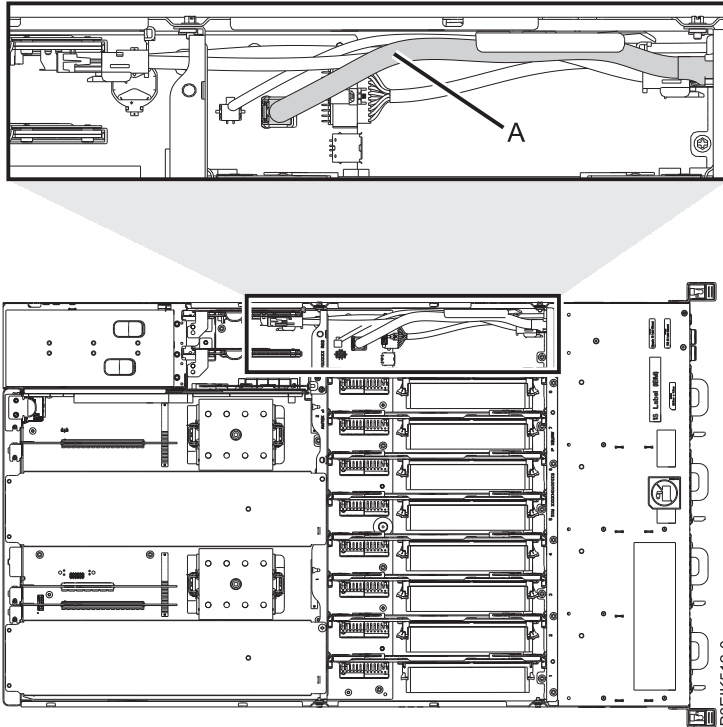

Figure 54. Location of the disk and fan signal cable and connectors
2. Locate the disk and fan signal cable (**A**). It connects from the system backplane to the disk drive and fan card, along the inside of the system. See Figure 54 on page 44.